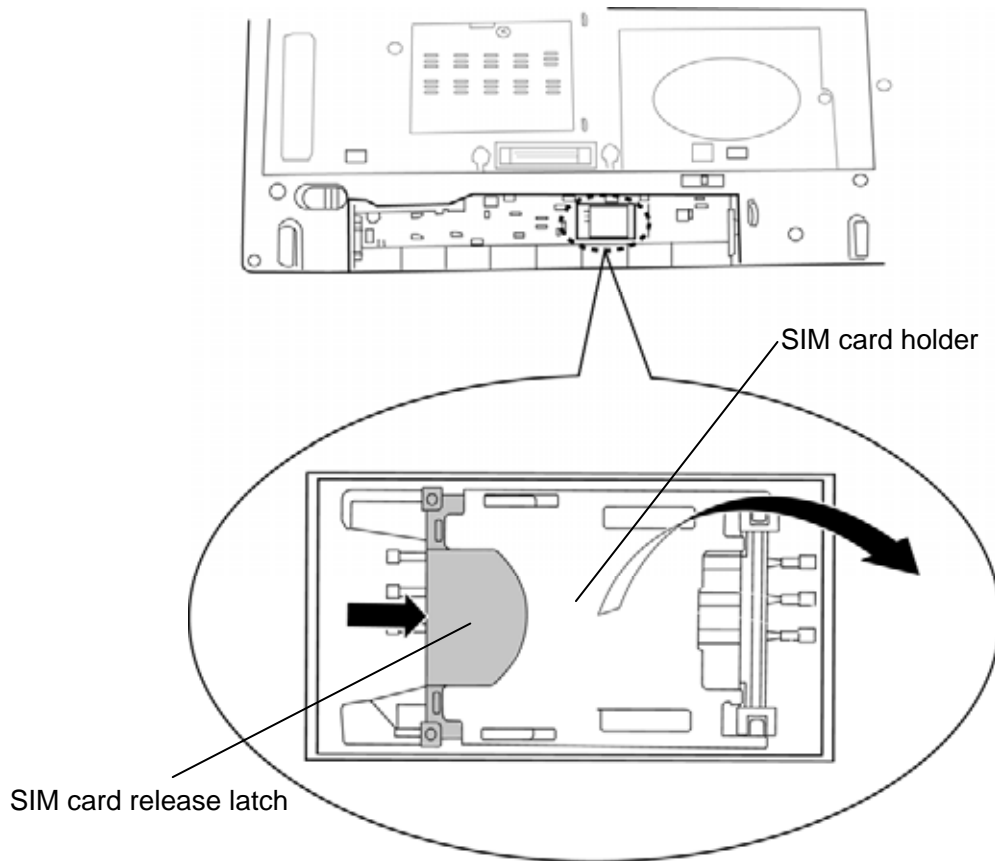

Figure 4-2 Removing the SIM card (1)
To remove the SIM card, follow the steps below and refer to Figure 4-2 and 4-3.
To install the SIM card, follow the steps below and refer to Figure 4-2 and 4-3.
2. Lay the **SIM card holder** down and lock the **SIM card release latch** while sliding it in the opposite direction as shown in the figure 4-2.